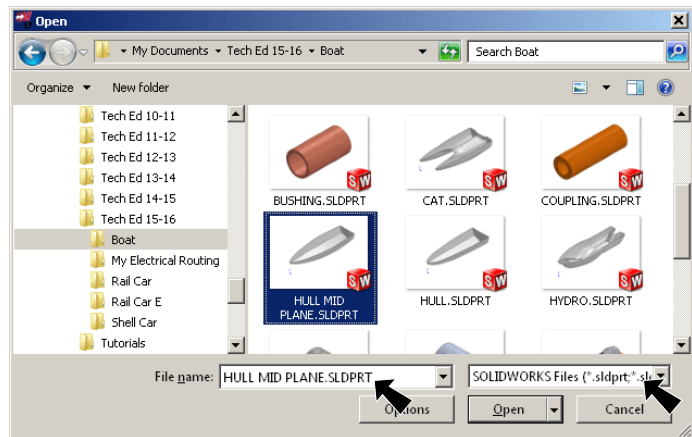

Fig. 1
Step 3. In the Open dialog box set Files of type to SOLIDWORKS Files, select your Hull Mid Plane file, Fig. 1. Click Open.